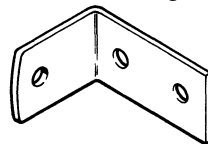

FIGURE 9
**Step 19.** Make engine angle braces from .040 aluminum and drill mounting holes but do not mount. Fig. 9.